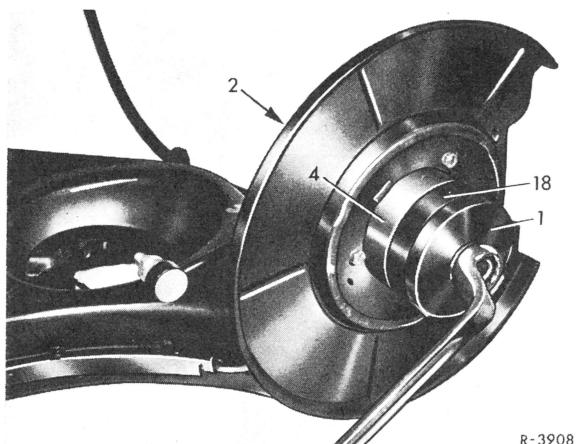

Fig. 16
15 Coat seat for outer sealing ring (18) on wheel carrier with sealing compound and install new sealing ring with installing tool (Fig. 16).